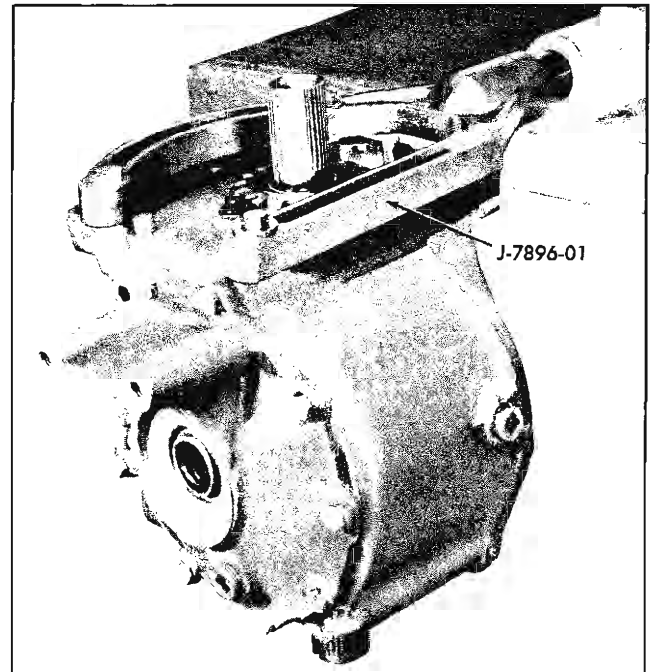

Fig. 4-27 Carrier Assembly Mounted on Fixture
2. Mount differential on holding fixture J-7896-01 (Fig. 4-27).